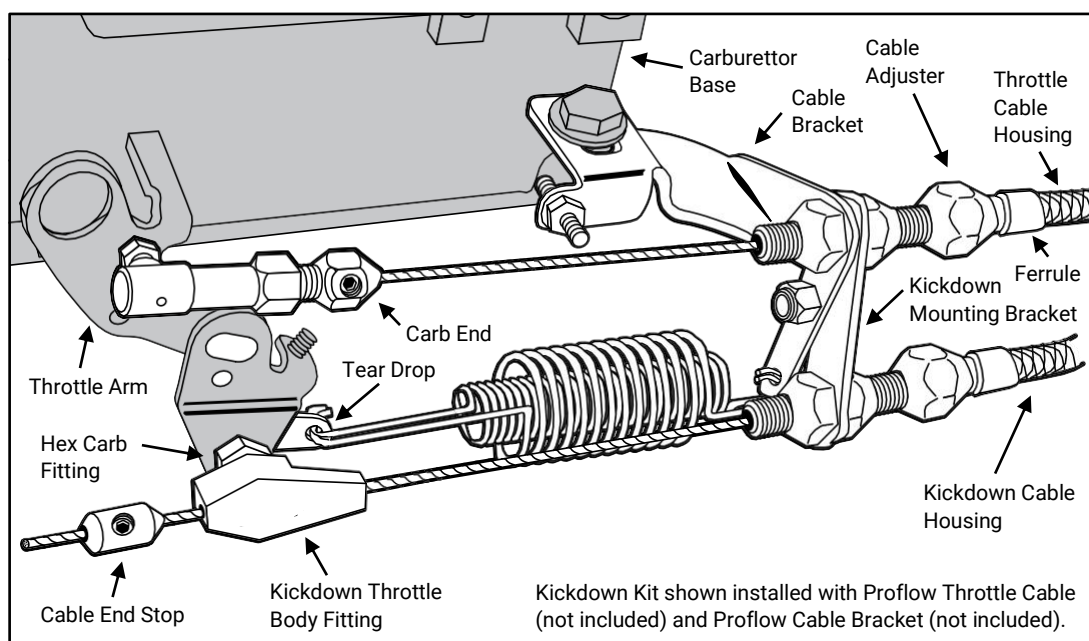
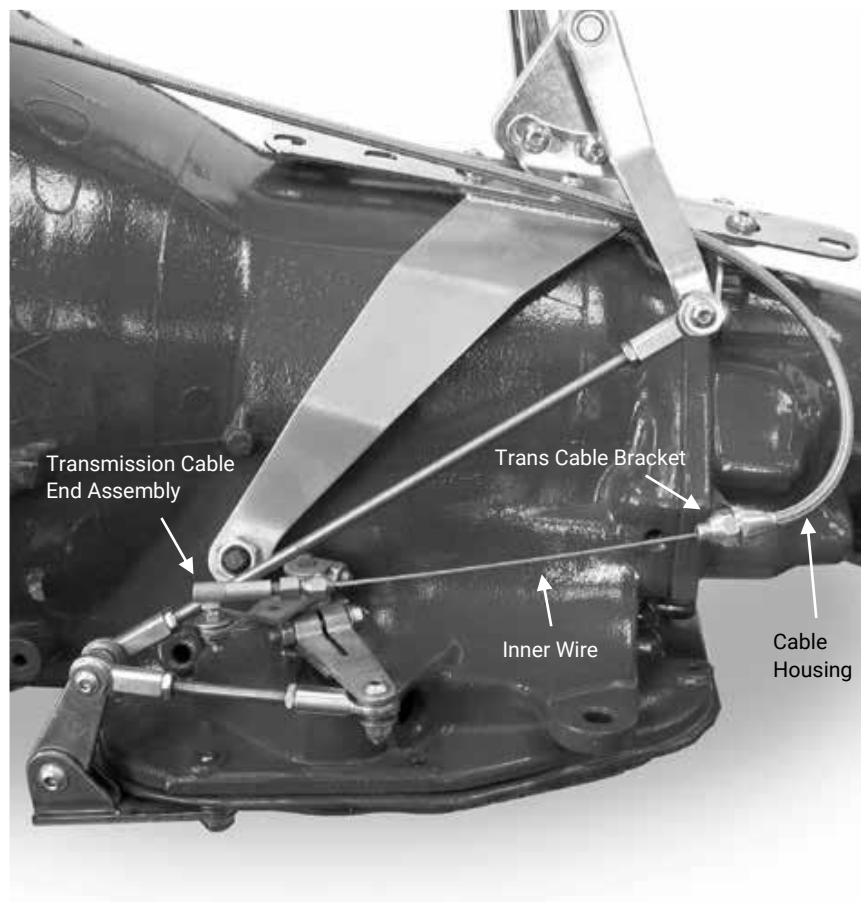

Figure 7
Figure 8
7. The tear drop (not included, comes with the Cable Mounting Bracket) will be attached to the throttle arm by the hex carb fitting. Separate the hex carb fitting from the kickdown throttle body fitting. Install the hex carb fitting and the tear drop onto the throttle arm as shown in Fig. 7. Hook the springs to the tear drop and tighten the nylock nut on the hex carb fitting. Then, back the nylock nut off just enough that the tear drop can pivot freely.
Final installation should look like Fig. 7 and Fig. 8.